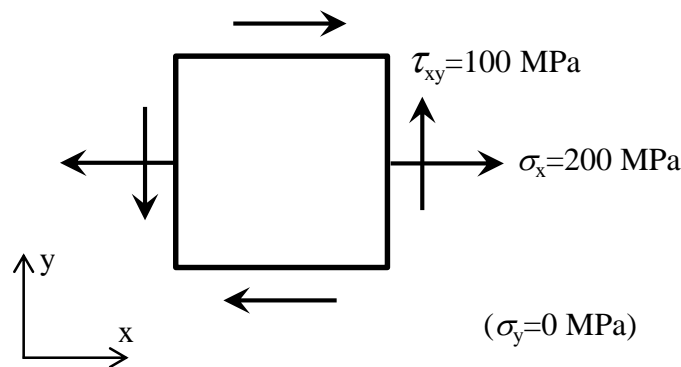

Fig. 3
- (1) The plane stresses ($\sigma_x=200$ MPa, $\sigma_y=0$ MPa, $\tau_{xy}=100$ MPa) are given as shown in Fig. 3. Draw the Mohr's stress circle corresponding to this stress state. Find the magnitude and direction of the maximum and minimum principal stresses.
- (2) The yield strength of a homogeneous isotropic material was evaluated by a uniaxial tensile test, and the material yielded when the tensile stress reached 250 MPa. Determine whether or not this material will yield when subjected to the plane stress as shown in Fig. 3, and the reason should also be given. Here, the yield will occur when the maximum shear stress reaches the material-specific limit value.